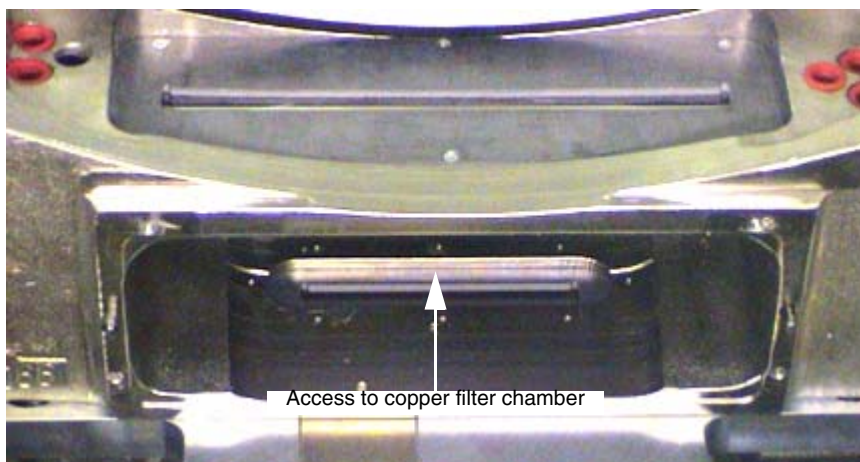

Figure 2-17 Cleaning Collimator Interior
- 8.) Rotate gantry so collimator is at 6 o'clock. See Figure 2-17.